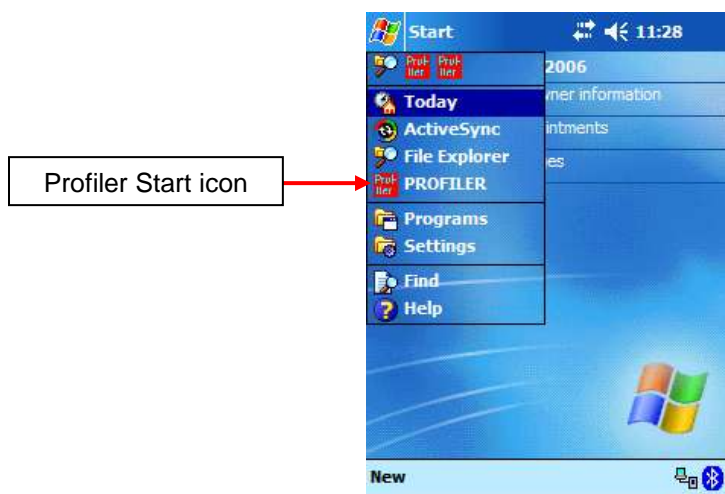

Figure 21: Profiler Start icon.
- Use the Windows Start icon located at the top of the PDA splash screen. Tap **Start** > **Red** Profiler icon located on the pull-down menu (Figure 21).